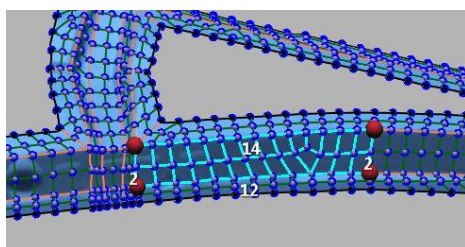

Figure 371
- Click on a panel as shown in the **Figure 371**.